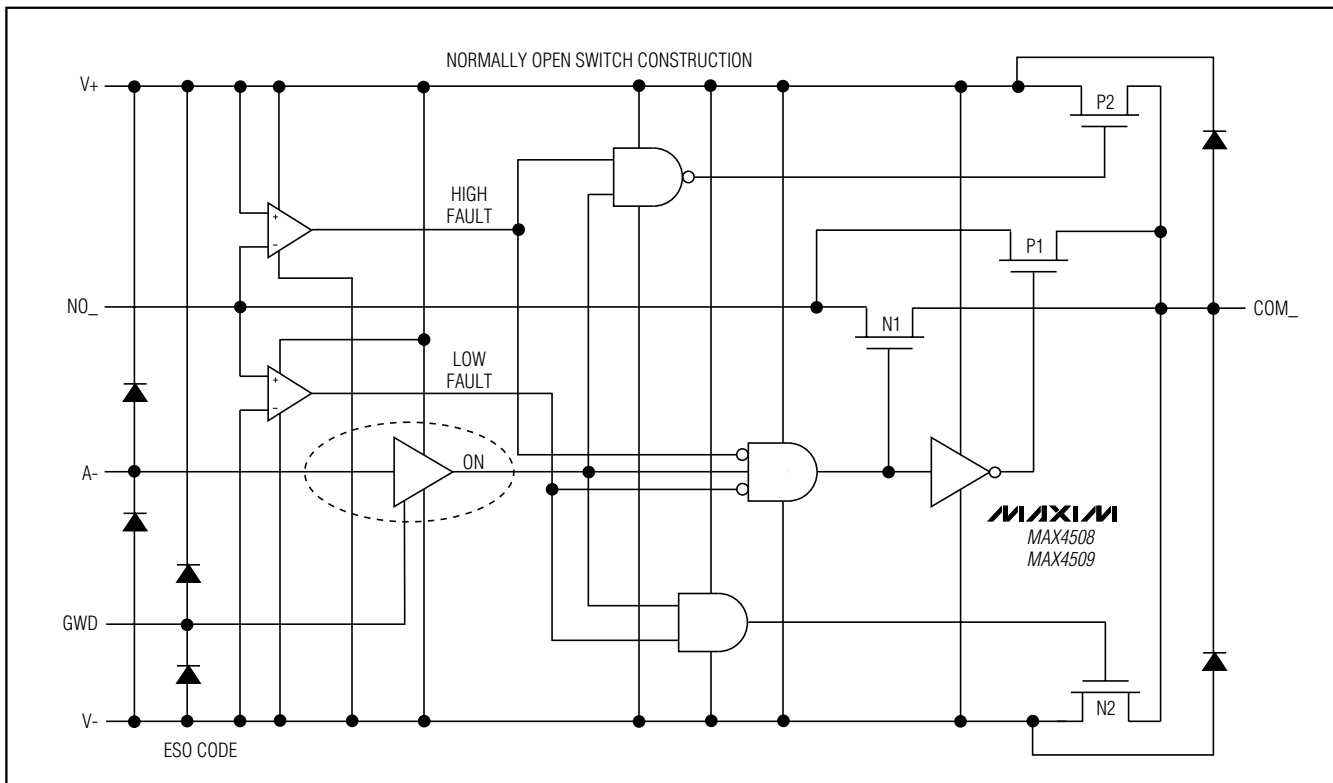

Figure 1. Functional Diagram
Figure 1 shows the internal construction, with the analog signal paths shown in bold. A single normally open (NO) switch is shown. The analog switch is formed by the parallel combination of N-channel FET N1 and P-channel FET P1, which are driven on and off simultaneously, according to the input fault condition and the logic level state.
Two comparators continuously compare the voltage on the NO₁ pin with V₊ and V₋ supply voltages. When the signal on NO₁ is between V₊ and V₋, the multiplexer behaves normally, with FETs N1 and P1 turning on and off in response to A₁ signals (Figure 1). The parallel
When the signal on NO₋ exceeds V₊ by about 150mV, the positive fault comparator output goes high, turning off FETs N1 and P1 (Figure 1). This makes the NO₋ pin high impedance, regardless of the switch state. If the switch state is “off,” all FETs turn off, and both NO₋ and COM₋ are high impedance. If the switch state is “on,” FET P2 turns on, clamping COM₋ to V₊.
When the signal on NO₋ goes about 150mV below V₋, the negative fault comparator output goes high, turning off FETs N1 and P1 (Figure 1). This makes the NO₋ pin high impedance, regardless of the switch state. If the switch state is “off,” all FETs turn off, and both NO₋ and COM₋ are high impedance. If the switch state is “on,” FET N2 turns on, clamping COM₋ to V₋.
FETs N2 and P2 can source about ±10mA from V₊ or V₋ to the COM₋ pin in the fault condition (Figure 1). Ensure that if the COM₋ pin is connected to a low-impedance load, the absolute maximum current rating of 30mA is never exceeded, either in normal or fault conditions.